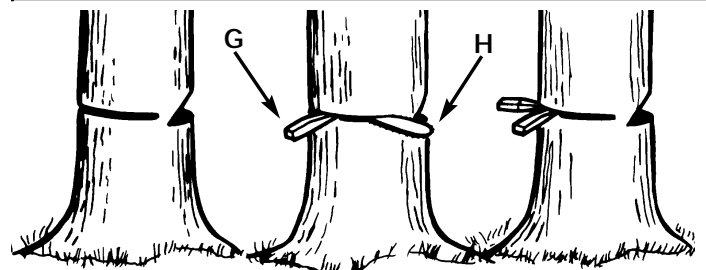

Fig. 14
1. Use wooden or plastic wedges (G) to prevent binding the bar or chain (H) in the cut. Wedges also control felling (Fig. 14).